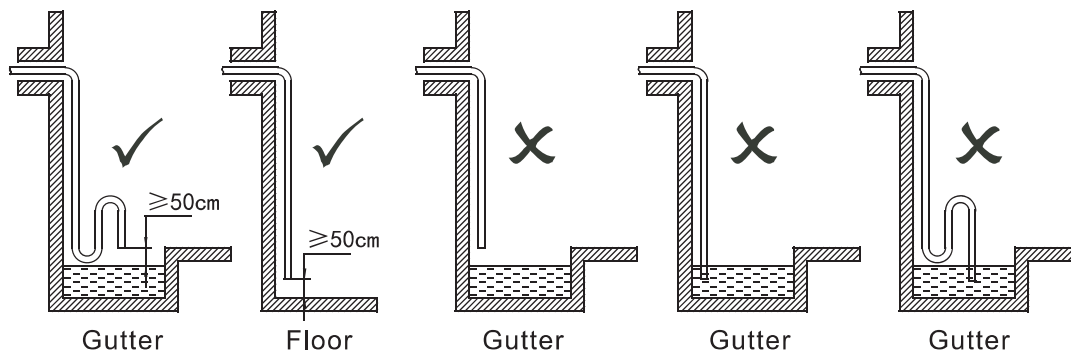

Figure 4.3
9) The distance between the end of drainpipe and the bottom of sink must be more than 50 mm, and don't put drainpipe into water. When directly pouring condensed water into drainage ditch, use upward bent drainpipe into a U-shape water seal to prevent bad smell from entering room through drainpipe. (See Figure 4.3)